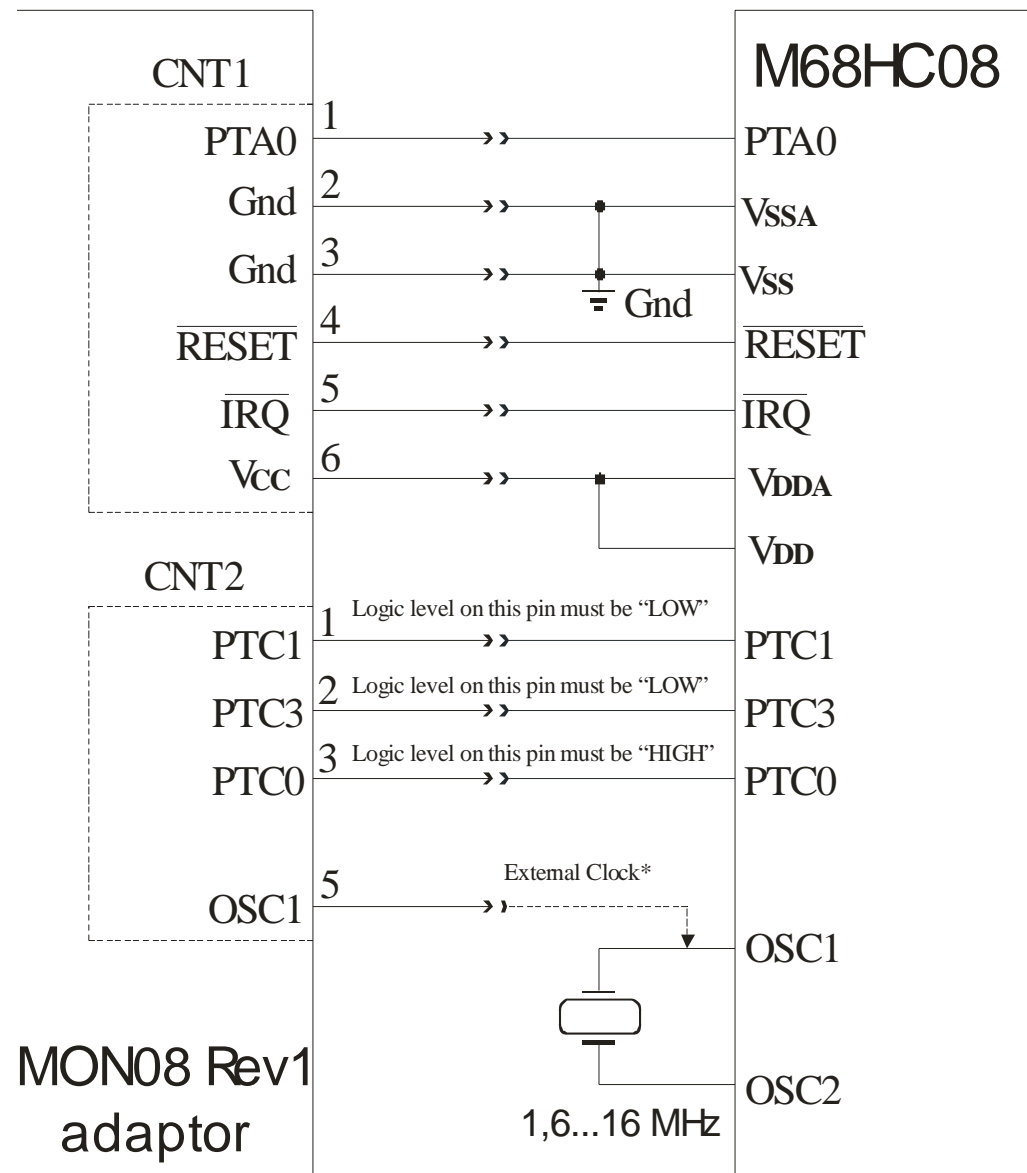

Figure 3. MON08 Circuit
- **Solutions:** Check MON08 monitor requirements according Appendix Figure 3.